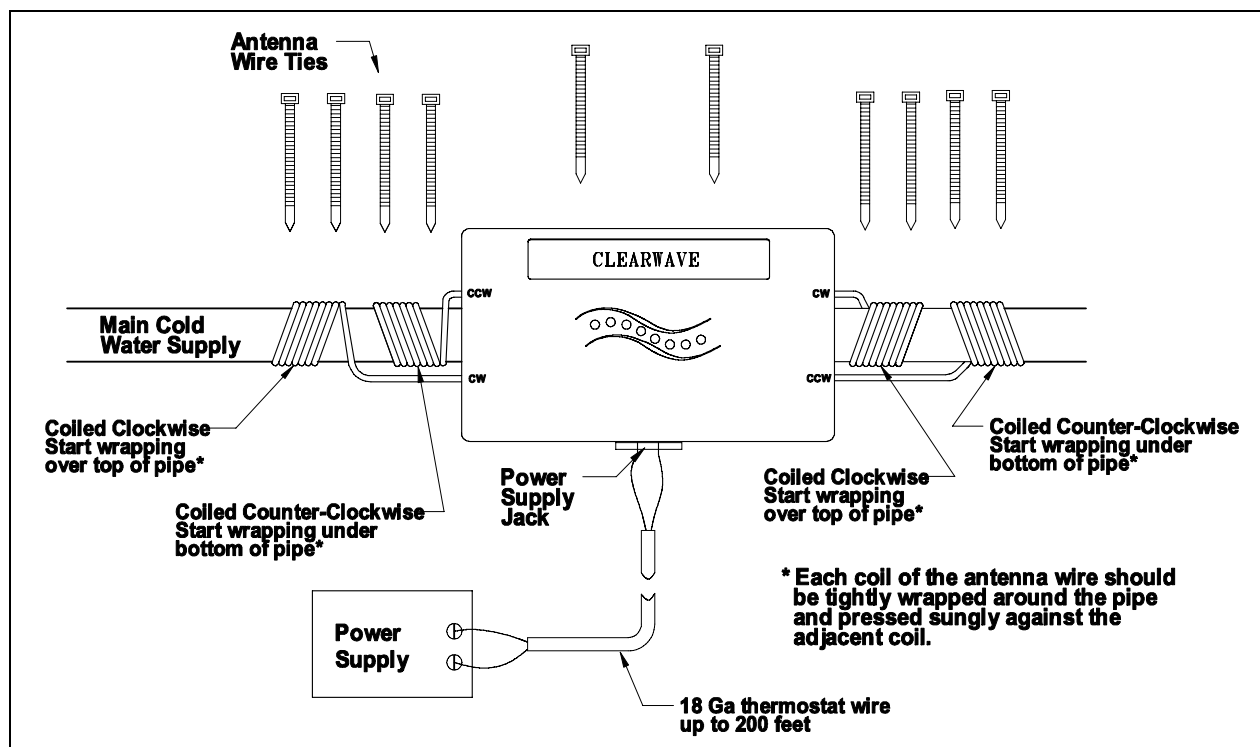
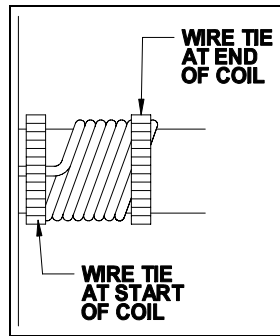
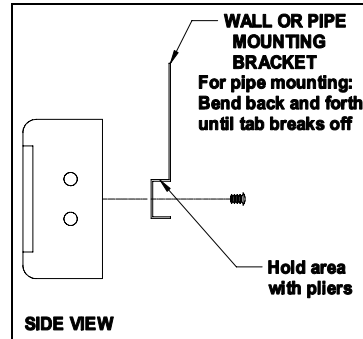

Figure 1
Figure 1A
Figure 2
1. One set of mounting brackets are provided, for mounting the ClearWave™ onto 1-1/2 inch to 4 inch water pipes or wall mounted near the selected pipe area. Mount the mounting brackets to the base of the ClearWave™ by using the screws provided. Mount the ClearWave™ onto the pipe with wire ties or to the wall with appropriate fasteners. (see Figure 1) For pipe mounting, the wall mount tabs should be removed from the mounting brackets. (see Figure 2)
The antenna wrap around the water pipe on each end of the ClearWave™ (see Figure 1). A minimum of seven fully wrapped coils of the antenna wire, with each coil wrapped tightly against the pipe and pressed snugly against each other is required for best results (see Figure 1A). Each wire coil should be spaced 1 inch to 2 inches apart. The operation of the ClearWave™ and the antenna installation is not based on direction of water flow, but one antenna MUST be wrapped in a clockwise direction and the other wrapped in an counter-clockwise direction.
1. On the right side of the unit wrap the first antenna onto the water pipe by securing the “CW” clockwise antenna to the water pipe next to the ClearWave™ housing with a wire tie. Wrap the right antenna clockwise (over the top of the pipe first), keeping the antenna wire tight against the pipe and the preceding coil. Secure the end of the antenna wire to the water pipe with a wire tie (see Figure 1A). Repeat wrapping the remainder of the antennas onto the pipe alternating the wrap direction (see Figure 1).
2. On left side of the unit wrap the first antenna onto the water pipe by securing the “CCW anti clockwise antenna to the water pipe next to the ClearWave™ housing with a wire tie. Wrap the antenna counter-clockwise (Under the bottom of the pipe first), keeping the antenna wire tight against the pipe and the preceding coil. Secure the end of the antenna wire to the water pipe with a wire tie. Repeat wrapping the remainder of the antennas onto the pipe alternating the wrap direction (see Figure 1).